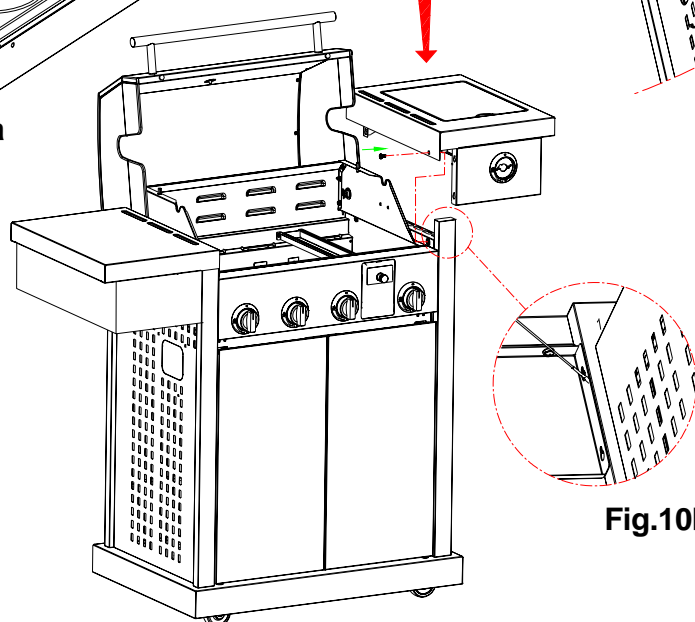

Fig.10b
2. Hang shelf onto right front and right back legs as shown in Fig.10b.
- Open lid, Attach right shelf to the right side panel from inside to outside of the firebox with one (1) M6 x 13(S.S.) screw as shown in Fig.10b.